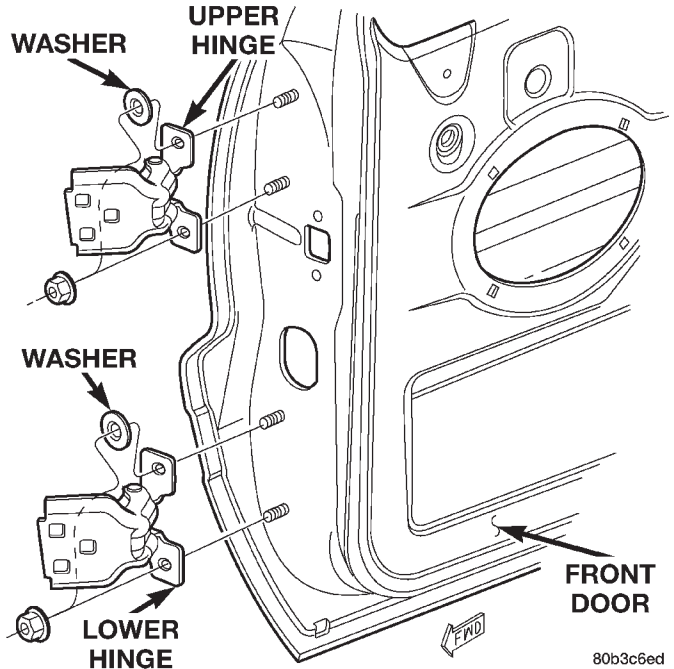

Fig. 19 Front Door Hinges
- (5) Remove the fasteners retaining the door hinge to the door (Fig. 19).
- (6) Remove the door.
- (7) Remove the hinge from the "A" pillar.